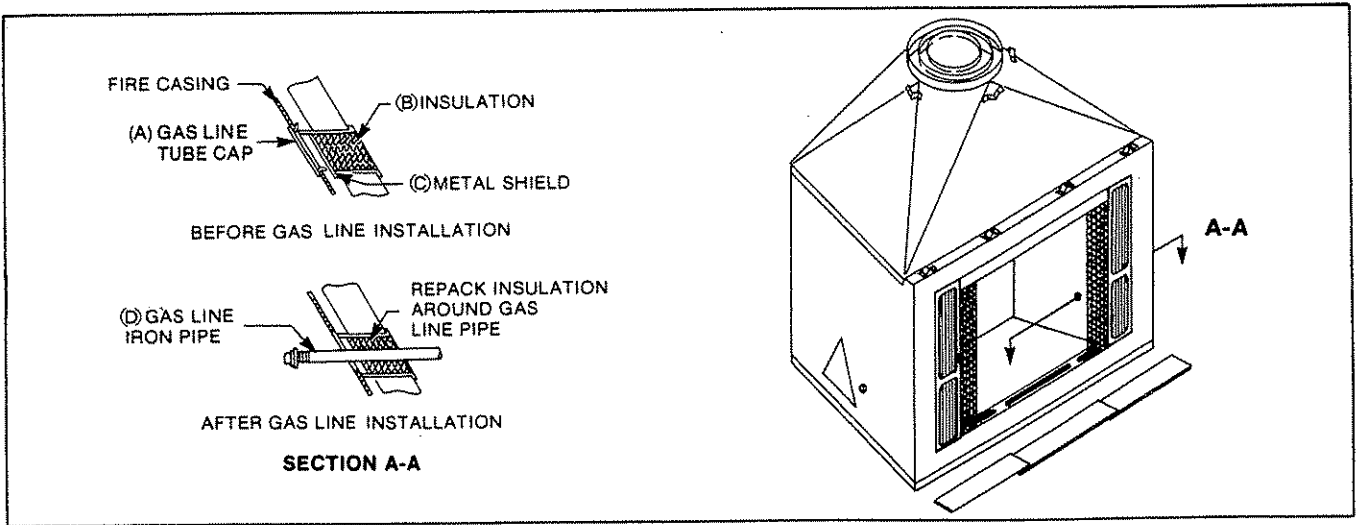

Fig. 23. Install iron pipe gas line through provided hole in both sides of fireplace.
Remove the gas line tube cap (A) located on the appropriate side of the firebox. Remove the insulation (B) from the gas line tube, working from the outside of the fireplace. Forceably push out the internal metal shield (C) using a probe or piece of iron pipe. Insert a 1/2-inch iron gas line (D) from the outside of the fireplace through the gas line tube. Repack insulation around the gas line from outside the fireplace. **CAUTION:** Make sure the insulation completely seals the space around the gas line. See Fig. 23.